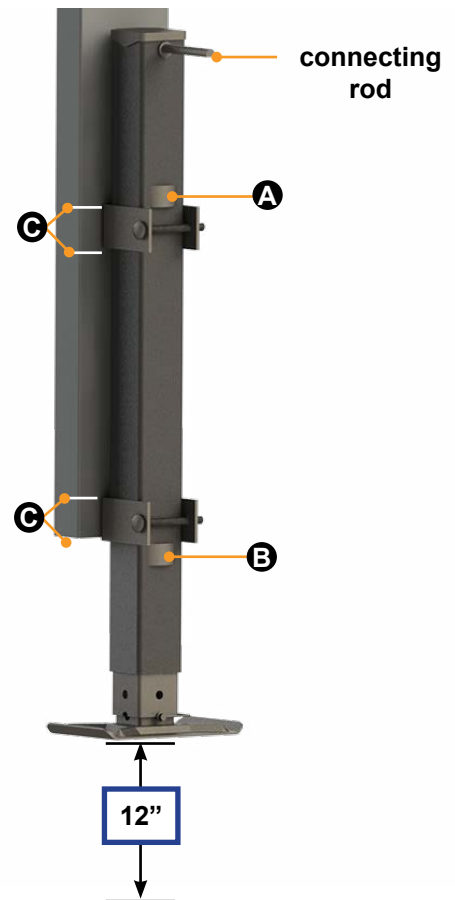

Fig.2
3. With the assistance of another person or jack stand, place the landing leg against the frame and lift until the landing foot is 12 inches off the ground (Fig.2).
NOTE: Both landing legs must be mounted at exactly the same height with the connecting rods (Fig. 2) directly across from each other for correct installation of the cross shaft.